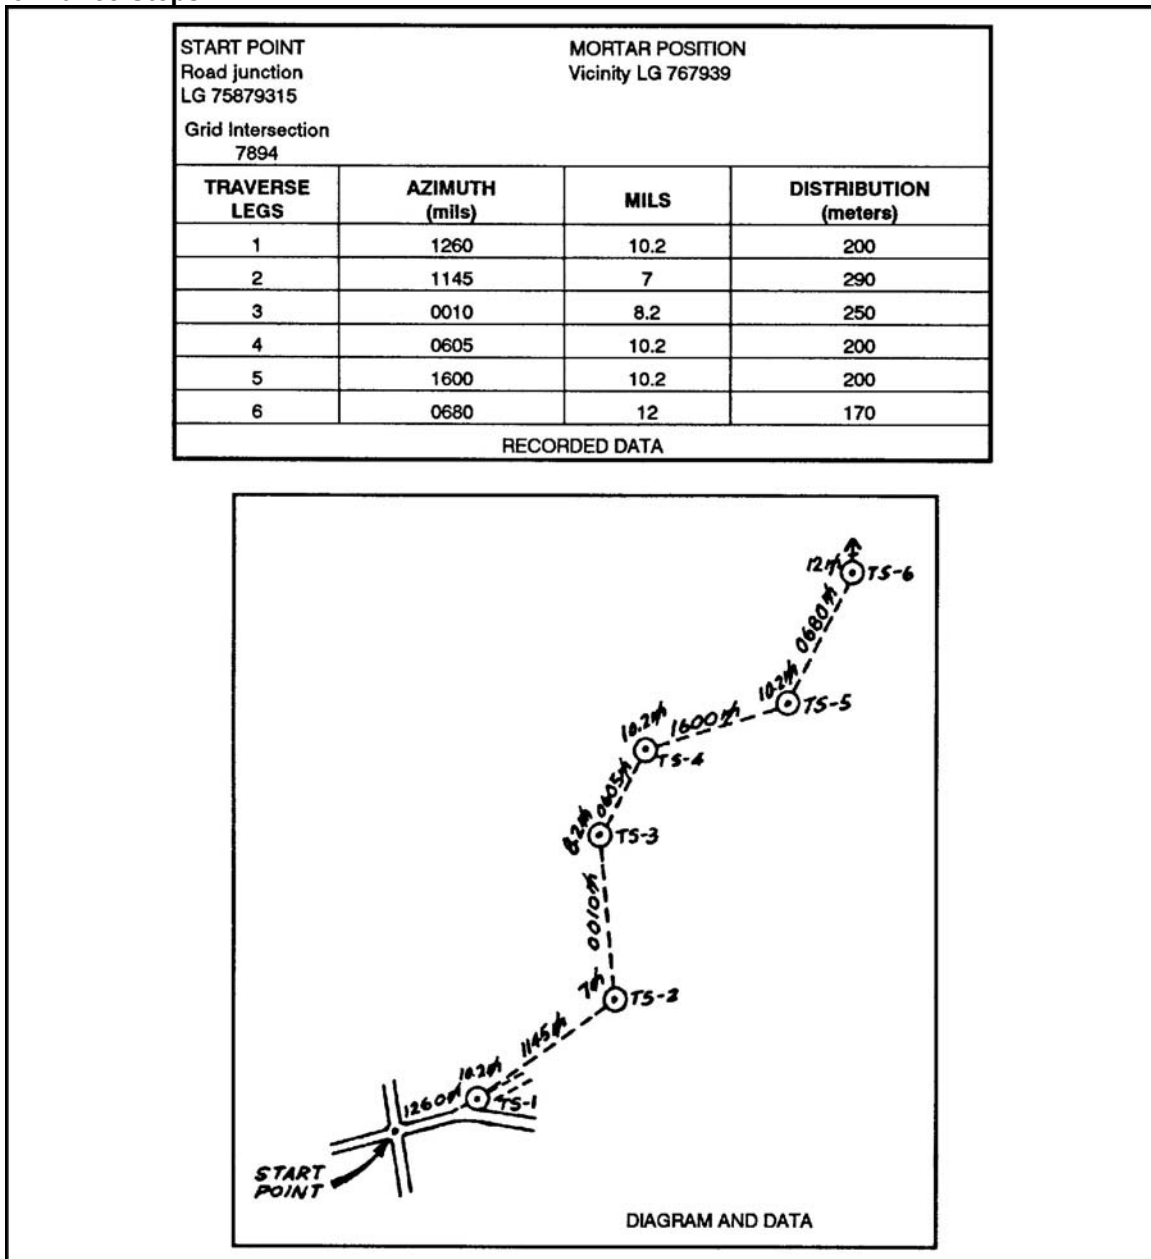

Figure 4. Initial and survey data and constructed diagram.
- h. Repeat this process for each traverse leg until the mortar position is reached. The information obtained may be written down as an azimuth, a mil angle and a traverse leg, or a diagram may be constructed (Figure 4).
- b. Use this general location of the mortar position to determine the grid intersection to use in placing a grid system on the plotting board (Figure 4).
- c. After placing the grid system on the plotting board, determine the eight-digit grid of the starting point (Figure 4). After ensuring that azimuth zero is indexed, plot the start point on the plotting board, enclose it in a hollow cross, and label it "SP" (starting point).